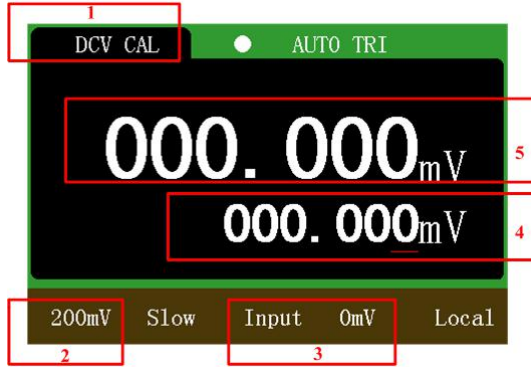

Figure 8- 1 Calibration interface
1. Enter 0mV according to the prompt of zone 3 in Figure 8- 1. Press Enter key after the measured value in area 5 is stable.
2. Enter -200mV according to the prompt of zone 3 in Figure 8- 1. Press Enter key after the measured value is stable.
3. Enter 200mV according to the prompt of zone 3 in Figure 8- 1. Press Enter key after the measured value is stable.
1. Enter 0V according to the prompt of zone 3 in Figure 8- 1. Press Enter key after the measured value in area 5 is stable.
2. Enter -0.5V according to the prompt of zone 3 in Figure 8- 1. Press Enter key after the measured
3. Enter -1V according to the prompt of zone 3 in Figure 8- 1. Press Enter key after the measured value is stable.
4. Enter -1.6V according to the prompt of zone 3 in Figure 8- 1. Press Enter key after the measured value is stable.
5. Enter -2.2V according to the prompt of zone 3 in Figure 8- 1. Press Enter key after the measured value is stable.
6. Enter 2V according to the prompt of zone 3 in Figure 8- 1. Press Enter key after the measured value is stable.
2. Enter 20V according to the prompt of zone 3 in Figure 8- 1. Press Enter key after the measured value is stable.
2. Enter 200V according to the prompt of zone 3 in Figure 8- 1. Press Enter key after the measured value is stable.
2. Enter 1000V according to the prompt of zone 3 in Figure 8- 1. Press Enter key after the measured value is stable.